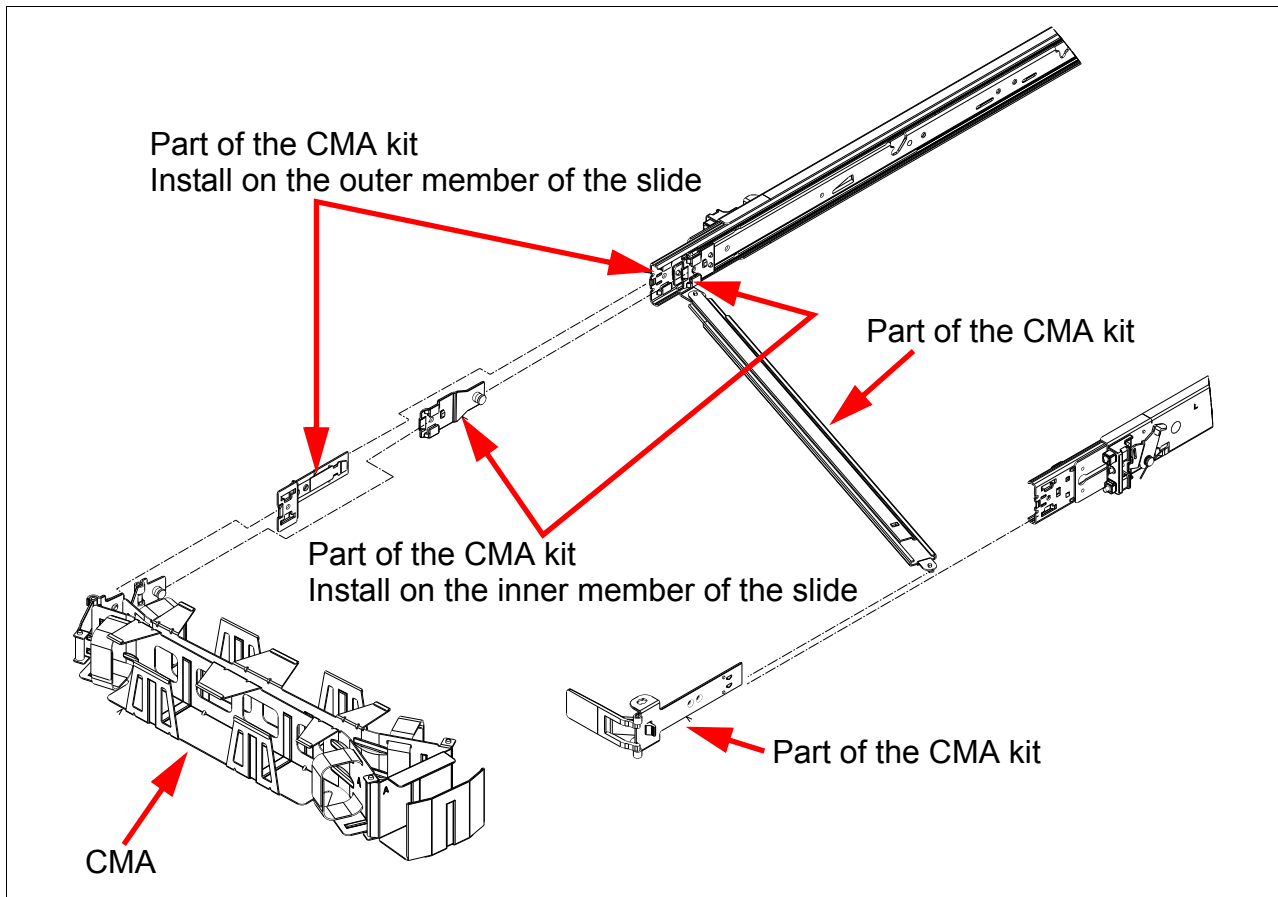

Figure 3-4 Cable management arms (rack not shown)
10. Install the cable management arms. See Figure 3-4.